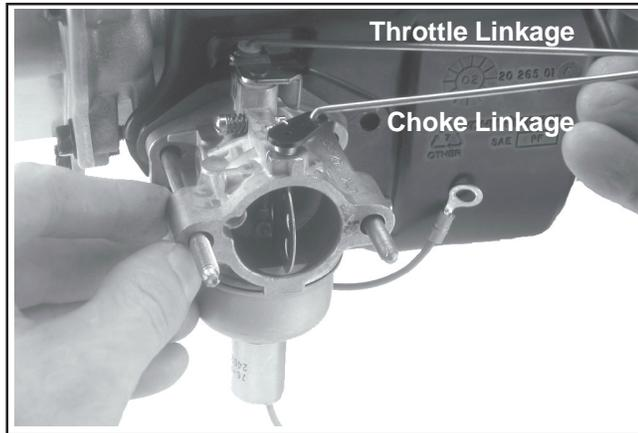

**Figure 10-54. Inserting Alignment Pin.**
4. **Models with one screw and one mounting stud only:** Insert a 3/16" diameter rod, approximately 4" long, into the open mounting hole in the heat deflector to serve as a temporary alignment pin. See Figure 10-54. Be careful not to force the rod or damage the threads.